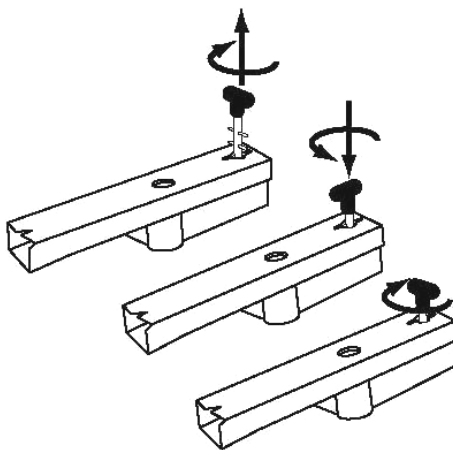

Figure 15a
1. Lift the Handle of the Tow Bar Locking Pin and rotate it (**Figure 15a**) to align the Spring Pins with the slot in the Tow Bar. Continue lifting until both Spring Pins are above the Tow Bar.
4. Lift the Handle and twist it until the Spring Pins align with the Slots in the Tow Bar. Press down to be sure to seat the Pin in the Mounting Plate hole (**Figure 15a**) at the desired location.
5. Rotate the Handle to position the Upper Spring Pin out of alignment with the Slot in the Tow Bar (**Figure 15a**).